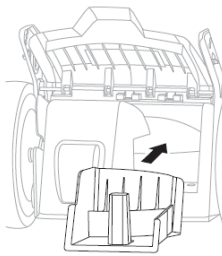
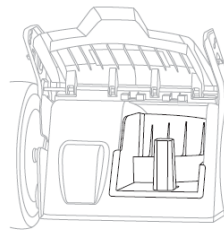

Fig.8B
Fig.8C
2. Push the mulching plug into the deck. Make sure it is securely in place (Fig. 8B/Fig. 8C)